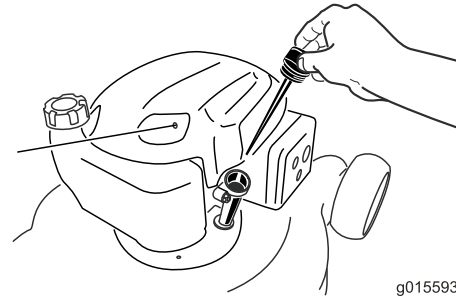

Figure 5
2. Retirez la jauge (Figure 5).